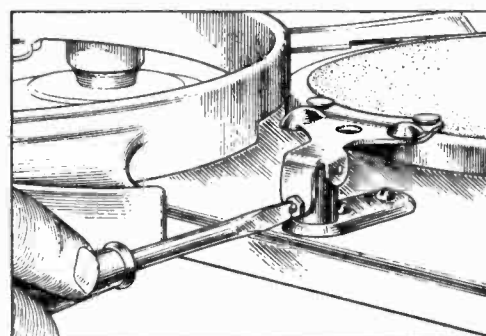

Figure 10—Record transfer lever adjustment
- (c) Improper height of record transfer lever. The small plate on top of the motor board at the left side of the turntable should be so adjusted that it will depress approximately  $\frac{1}{32}$ " when the magazine swings over the turntable. When this adjustment is made correctly, the transfer lever will engage the bottom record in the magazine as the latter is swinging back into the playing position. A small adjusting screw and lock nut are provided for this adjustment. See Figure 10.